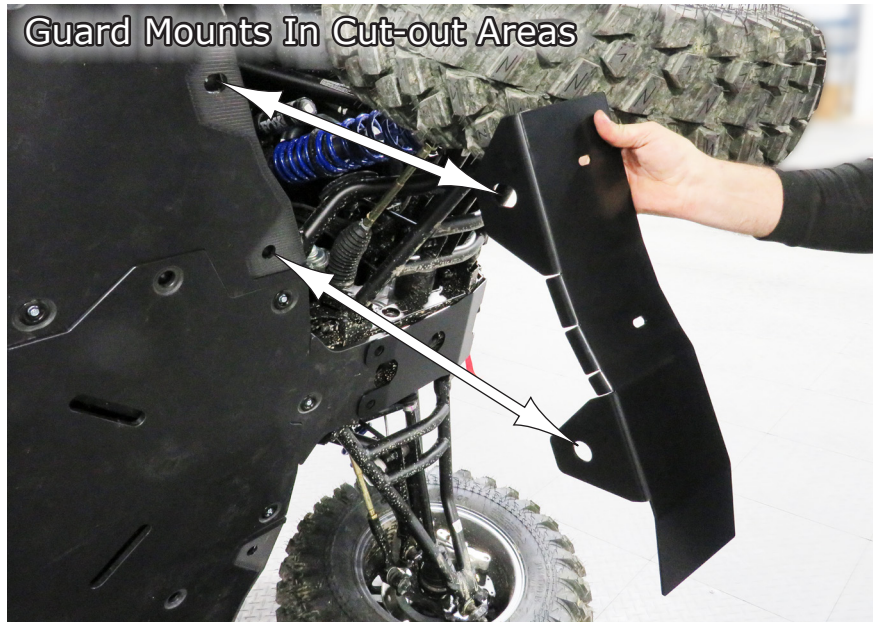

Fig.16a
Fig.16a shows the Protector Guard and where to install it at. You will hold it on by using the (2) Factory Torx Screws you removed from this area previously until you install the remaining skid plate screws after drilling the location holes.